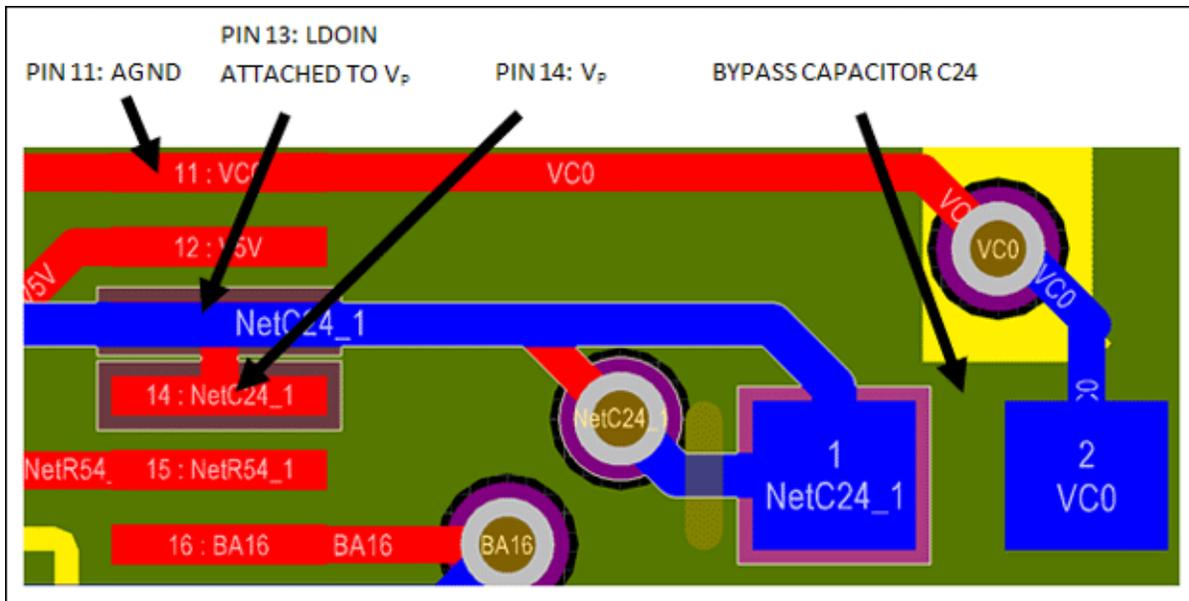

Figure 2. MAX14921 pin 14 bypass capacitor example.
**Figure 2** shows how VP is bypassed. As in the case with pin 5, top copper continues past the IC pin under the MAX14921 and vias to a bypass capacitor under the IC. Since the return for pin 13 is AGND, the other side of C24 goes to pin 11 instead of attaching to the DGND plane.